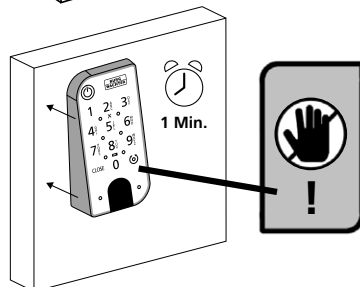

Fig. 9
- 4 Press the keypad against the wall for approx. one minute (Fig. 9).